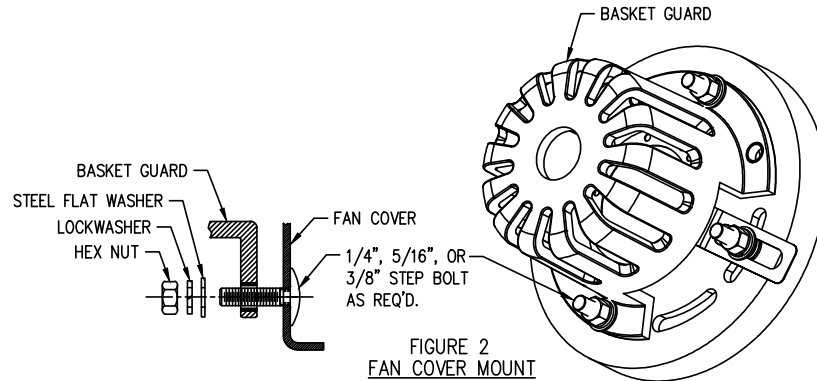

FIGURE 2
- 3) After the encoder tether is installed, place the protective basket guard over the encoder with the larger opening over the output termination and the shallow opening over the tether. Ensure the guard is properly seated on the mounting face and secure with hardware provided. See figs. 2, 3 or 4.
- 4) Attach free end of tether bracket to a fan cover, motor c-face or machine frame, as required. Use the insulating washers and hardware supplied to secure the tether. See figures 2, 3 or 4. Check to ensure that the tether is in a "no stress" condition, then firmly tighten clamp collar screw to 45-50 in-lbs using a T-handle hex wrench. Do not use a right angle hex wrench.